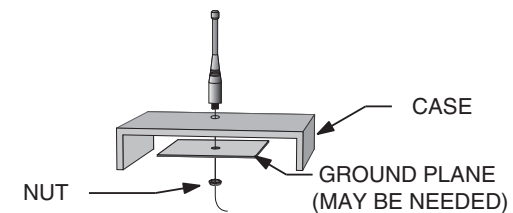

Figure 29: Remote Ground Plane
6. In some applications, it is advantageous to place the module and antenna away from the main equipment (Figure 29). This can avoid interference problems and allows the antenna to be oriented for optimum performance. Always use 50Ω coax, like RG-174, for the remote feed.